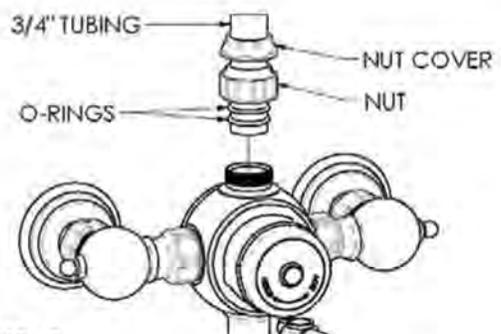

FIG. 5
13. Locate the nut cover and place it onto the tube (fig. 5).
14. Next, place the nut onto the tube (fig. 5).
15. Then place 2 o-rings on to the tube (fig. 5).
16. Push the tube onto the outlet of the main valve body until it bottoms out. Push the o-rings down the tube until they rest against the main valve outlet and while holding the tube against the main valve outlet tighten the nut by hand (fig. 5).